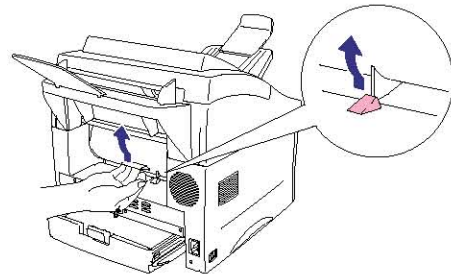

Fig. 2-23
- (1) Select the manual feed mode in the printer driver.
- (2) Lift up the rear cover at the rear of the printer. (Fig. 2-23)
- (3) Send the print data to the printer.
- (4) Follow Steps (3) to (4) above to load paper.
- (5) Close the rear cover of the printer.